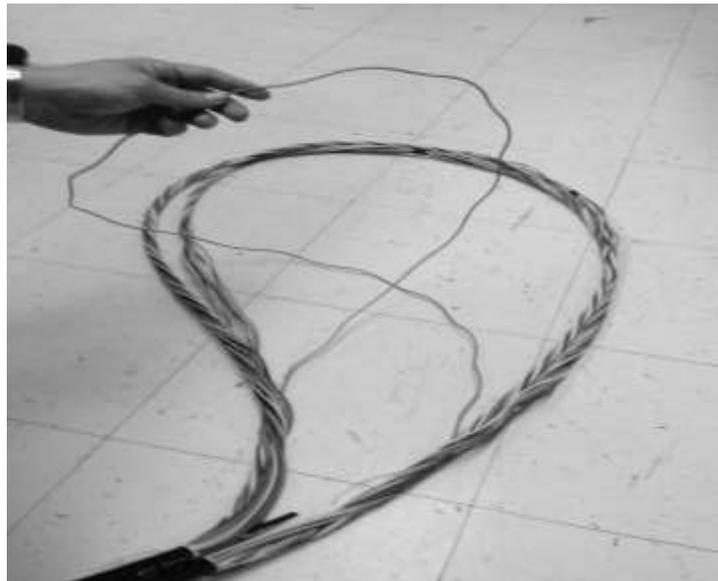

Figure 41 – Completed mid-span access of dual-layer cable.
7.6 Figure 41 shows the completed mid-span opening prior to installing the cable into the splice closure. The buffer tube intended for splicing can be routed through the storage basket and into to the splice tray. The remaining express tubes, i.e., the buffer tubes which will not be accessed for splicing, should be stored in the splice closure storage basket.